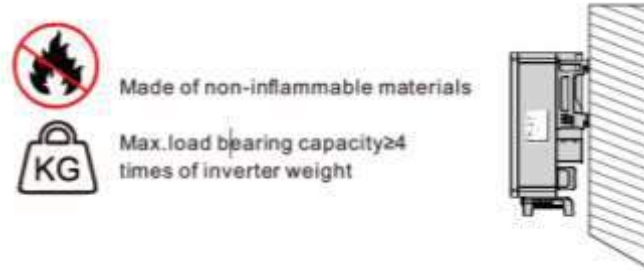

Fig. 4-2 Wall mounting
- The maximum load bearing capacity ≥ 4 times of inverter weight (Fig. 4-2).